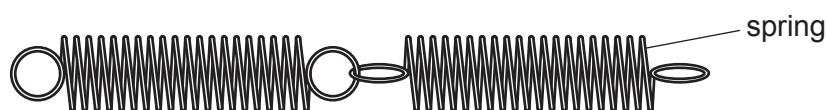

Fig. 1.1
- 1 Connect two of the springs as shown in Fig. 1.1. The other two springs should remain separate and be laid on the bench.